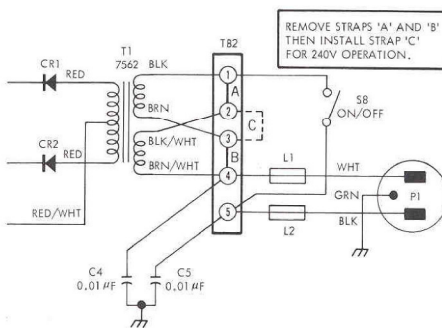

Figure 3. Converting to 240V, 50/60 Hz Power
- Step 3. Remove strap "A" connecting terminals 1 and 2, and remove strap "B" connecting terminals 3 and 4; then solder strap "C" to terminals 2 and 3 (see Figure 3).